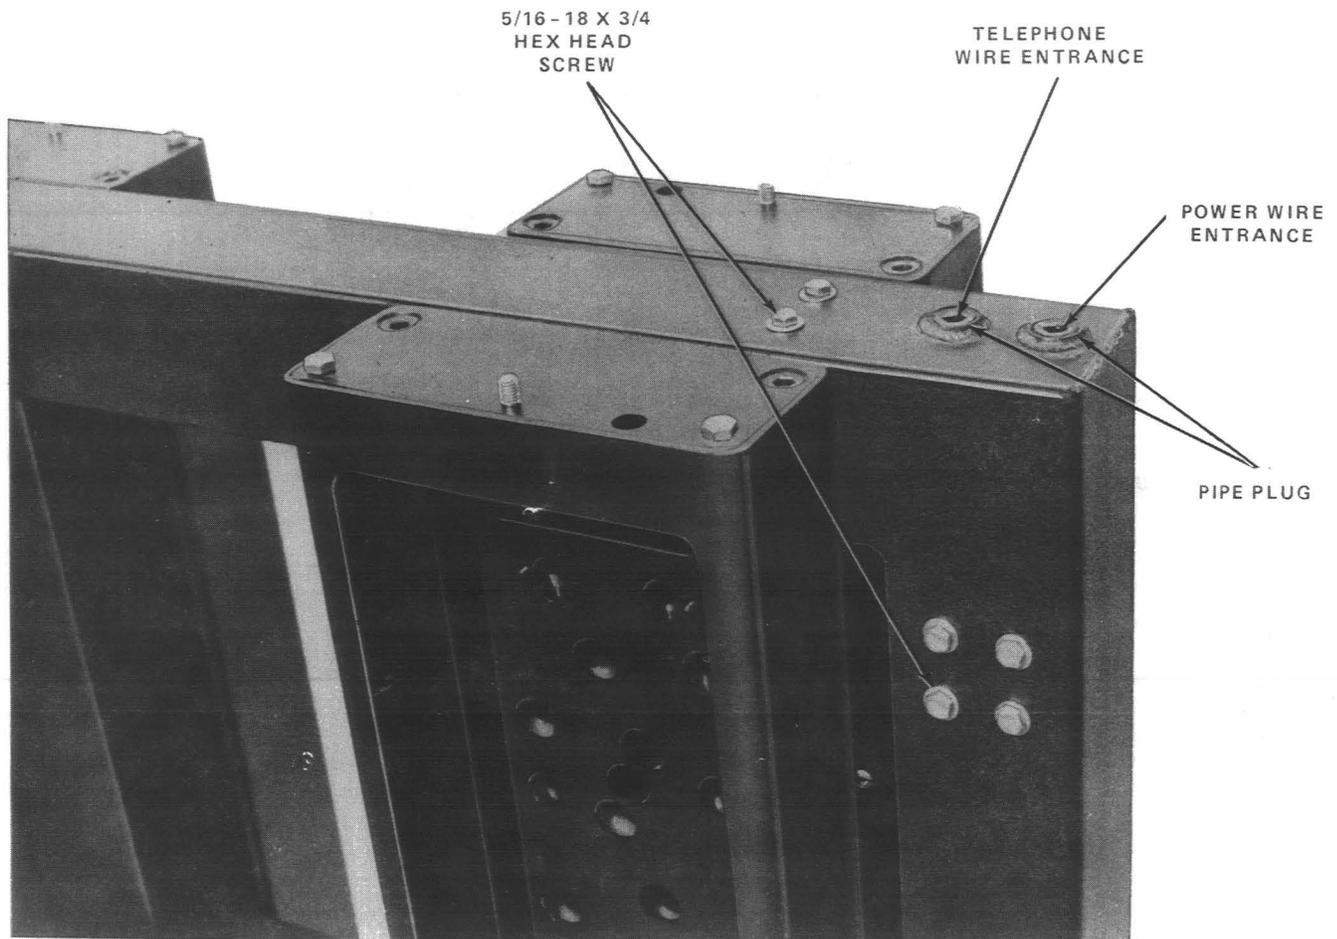
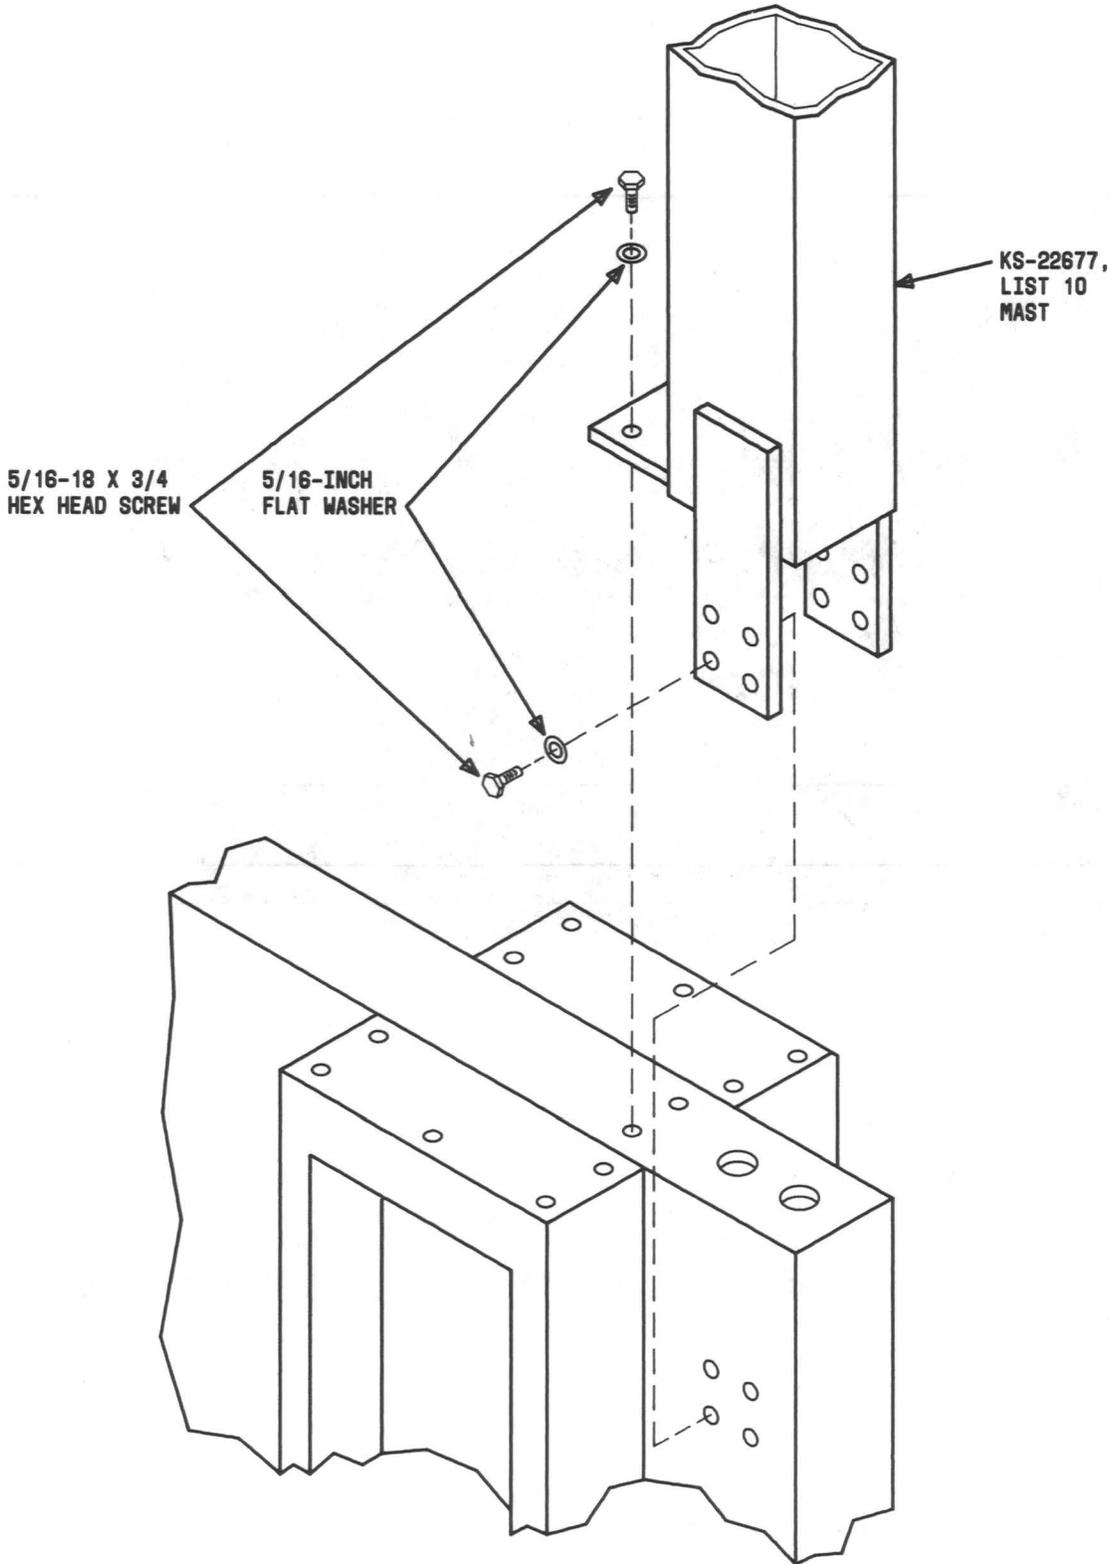

Fig. 21—Mounting Position of Mast
Fig. 22—Installation of KS-22677, List 10 Mast
- (1) Remove ten 5/16-18 by 3/4 hex head screws and ten 5/16-inch flat washers from corral rail (two from top and four from each side [Fig. 21]).
- (2) Remove two pipe plugs from top of corral rail.
- (3) Install telephone and electrical wiring in mast.
- (4) Install mast on corral rail and secure it with the ten 5/16-18 by 3/4 hex head screws and ten flat washers removed in Step (1) (Fig. 22).
- (1) Remove six 5/16-18 by 3/4 hex head screws and six 5/16-inch plain washers from corral rail (two from top and two from each side [Fig. 21]).
Note: The List 30 mast assembly mounts similar to the List 10 mast assembly (Fig. 22) except only two screws are used on each side.
3.27 Telephone and electrical wiring for the corral rail can enter the rail from the top (Fig. 21), underground, or through a mast. An opening exists on the left end of the top horizontal rail for gaining access to the telephone wiring.